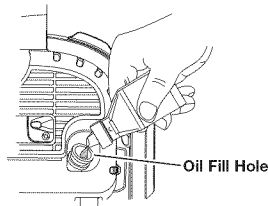

Fig. 6
3. Pour the entire bottle of oil into the oil fill hole (Fig. 6).